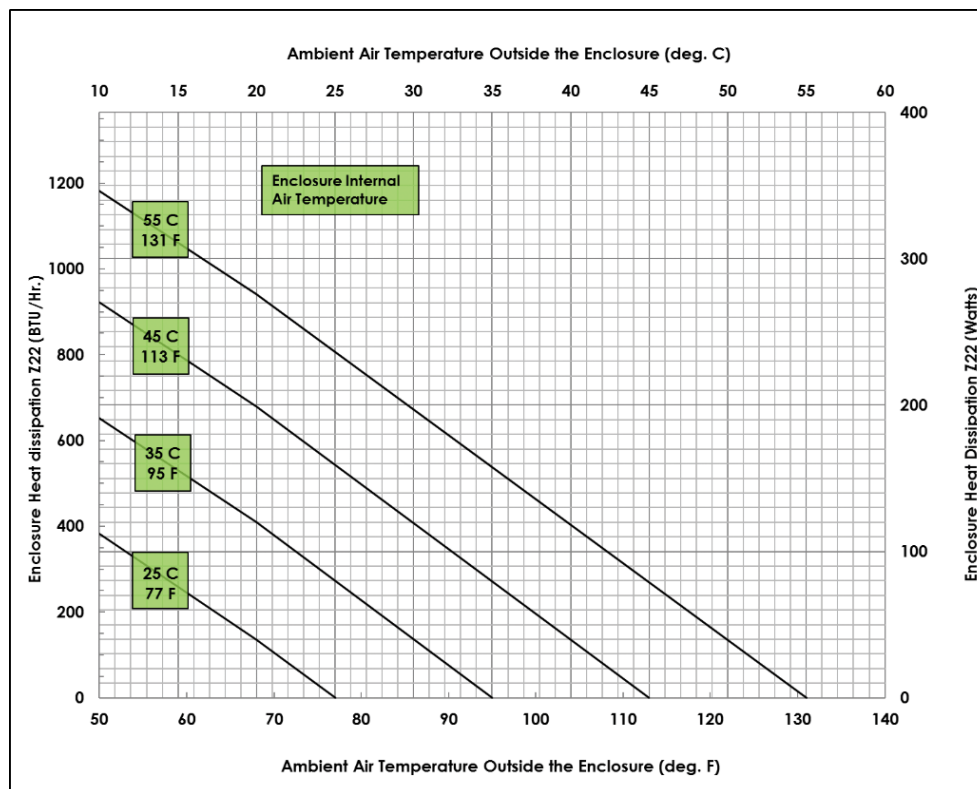

Figure 17: Z22 enclosure thermal guideline – sealed.
2. Figure 17 provides a guide for a Panduit Z22x enclosure heat dissipation for various external ambient temperatures.